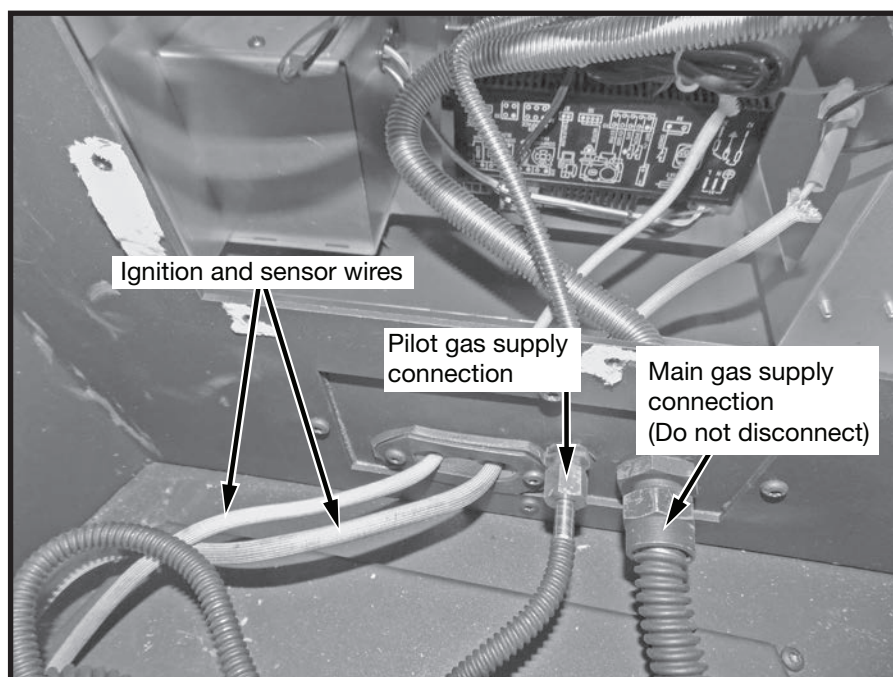

Figure 29: Connections at bulkhead.
4. Disconnect the pilot gas supply line at the bulkhead (Figure 29). DO NOT disconnect the main gas supply line from the bulkhead.